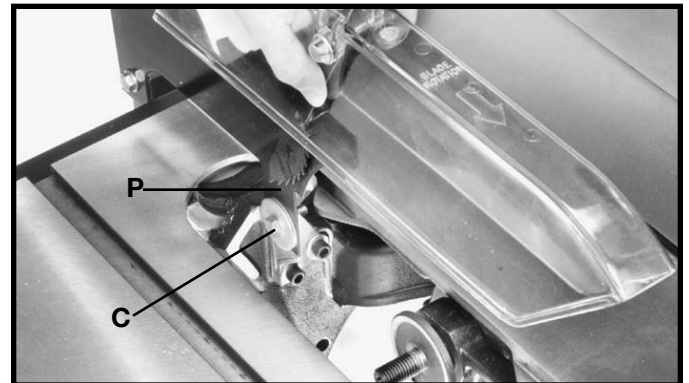
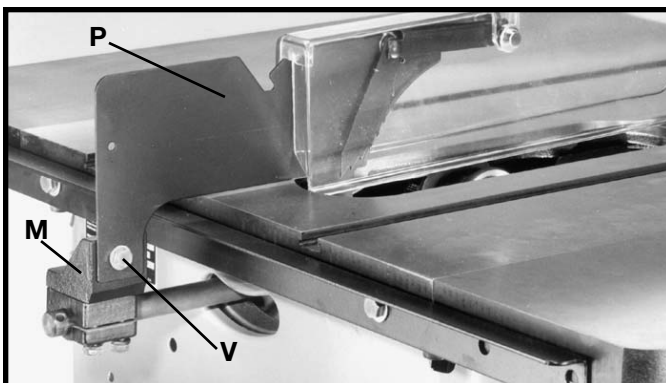

Fig. 20
Fig. 21
9. Insert the front end of splitter (P) Fig. 20, inside the splitter mounting bracket behind splitter fastener plate and screw (C). Push splitter down as far as possible, making certain the bottom edge of splitter (P) is parallel with the table surface. Tighten screw (C). Fasten splitter and blade guard assembly (P) Fig. 21, to bracket (M) using one-inch long screw (V) and flat washer.